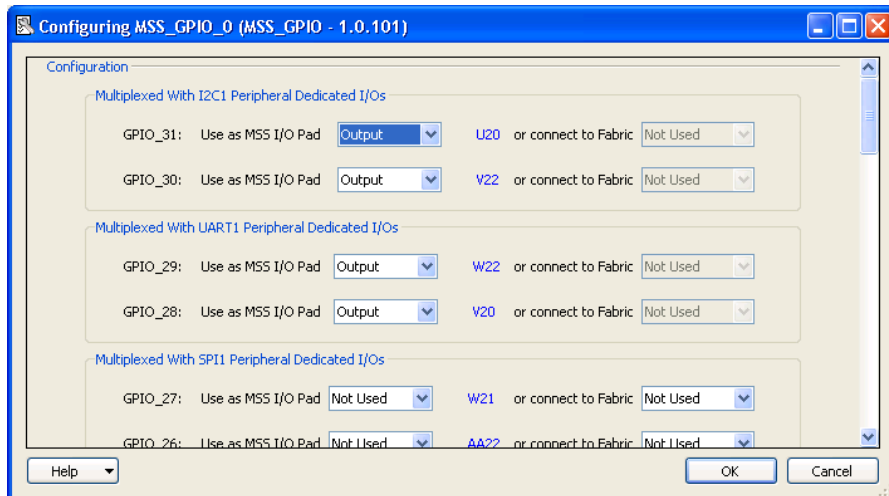

Figure 18 · Configure MSS_GPIO_0
1. Double-click the **GPIO** block in the **MSS component**, configure as shown in Figure 18 , and click **OK**.